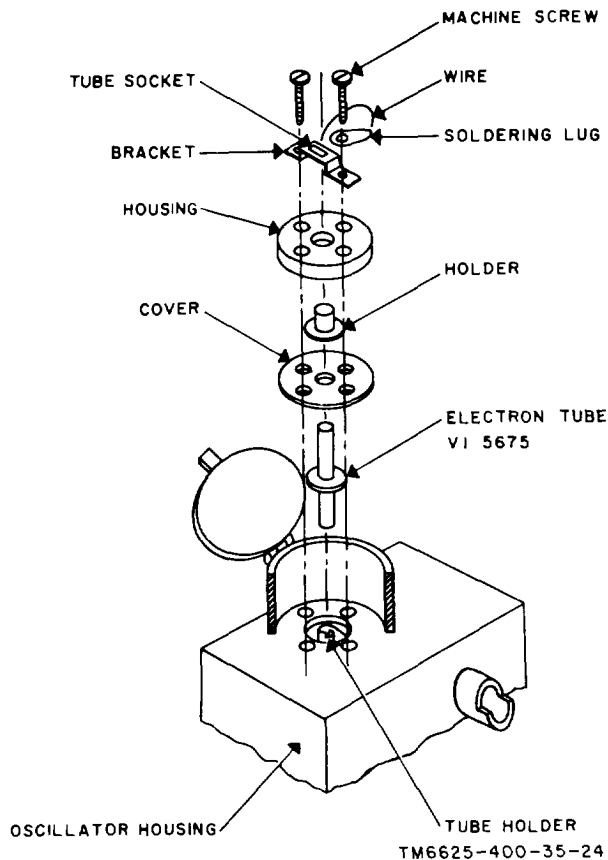

Figure 23. Replacement of V1.
- (3) Place the coupling (39) over the tuning capacitor shaft.
- (4) Tighten the setscrews (38) on the shaft.
- (5) Tighten the screws that hold the tuning capacitor (31) to the bracket (30). Be sure that the shaft rotates freely.
- (6) Replace resistors R7 and R8 to the capacitor contact assembly (28) and plateholder assembly (17) contacts.
- (7) Replace V1.
- (8) Replace the rotor shaft (9) in its original position.
- (9) Push the rotor shaft (9) into position.
- (10) Tighten the detent arm (5) by tightening the screw (3) attached to the detent bracket (4).
- (11) Replace the retaining ring (10) in the groove in the rotor shaft (9).
- (12) With the rotor in position, tighten the setscrew (24) on the rotor hub.
c. Replacement of Electron Tube V1 (fig. 23).
- (1) List up the lid that covers the tube enclosures.
- (2) Remove the two screws that hold the tube socket bracket assembly.
- (3) Lift off the socket bracket assembly.
- (4) Remove the two remaining screws.
(5) Lift off the upper disk, the cathode contact, and the lower disk.
- (6) Pull the tube straight up to remove it from the plate contact.
- (7) Insert new tube into the plate contact.
- (8) Be sure that the grid makes contact with the grid contact mounting of the tuning capacitor.
- (9) Replace the lower disk, cathode contact, and upper disk.
- (10) Replace the two screws that do not hold the socket bracket.